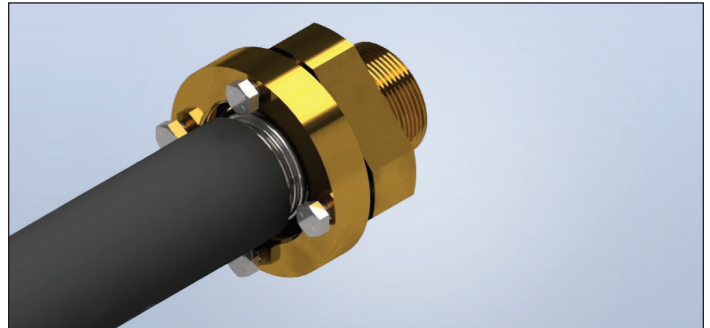

Figure: 1-6
- Slide the Back Flange forward to trap the Split Rings. While applying forward pressure to the Back Flange, slide the Front Pipe Flange onto the Back Flange ledge. Insert and align Hex Bolts, then partially tighten, which will allow the fitting to swivel (Figure 1-6).